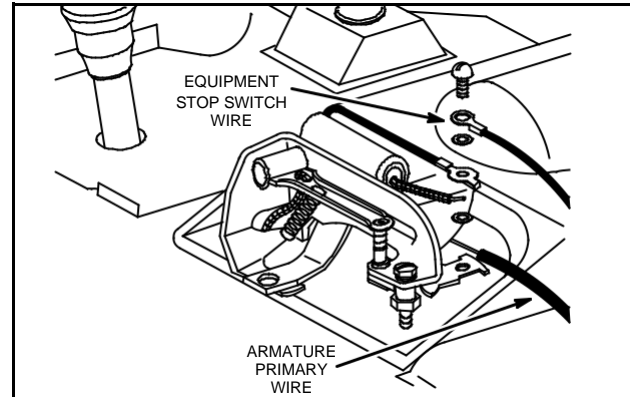

Fig. 3 – Remove Primary Wire
3. Remove armature primary wire from breaker points, Fig. 3.